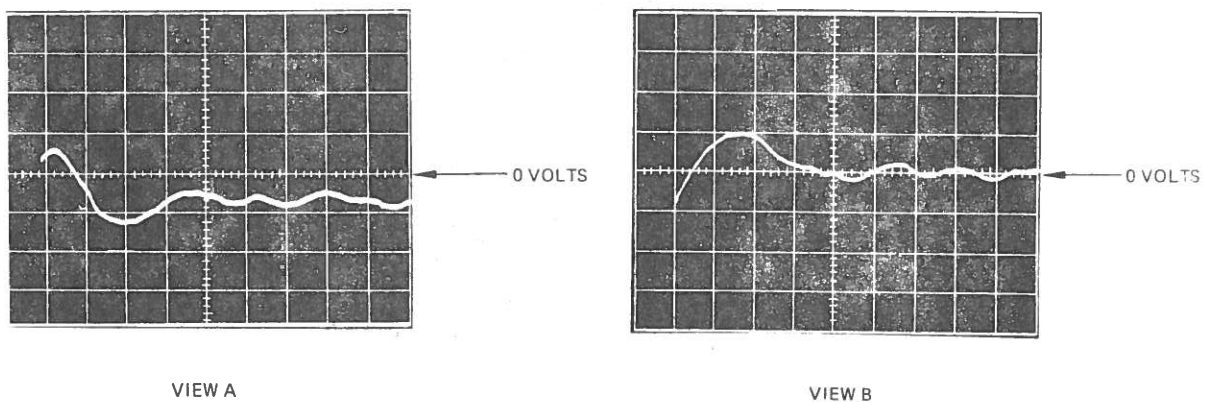

Figure 6-21. Balancer Waveforms
2. Estimate location of midpoint of combined (added) position 1 and 2 signal (while on track) with respect to zero-volt reference as shown in figure 6-21, view B. DC offset must be less than  $\pm 0.3$  volt.
2. Connect 2420 (+ 12V) to a 560 Kohm resistor. Connect other end of resistor to 2444 (Balancer Output 2). Resulting waveform should resemble that of view A, figure 6-21, with negative deflection followed by rapid decay to zero.
3. Remove jumper from resistor to 2444. Resulting waveform should show positive deflection followed by rapid decay to zero, as in view B, figure 6-21.